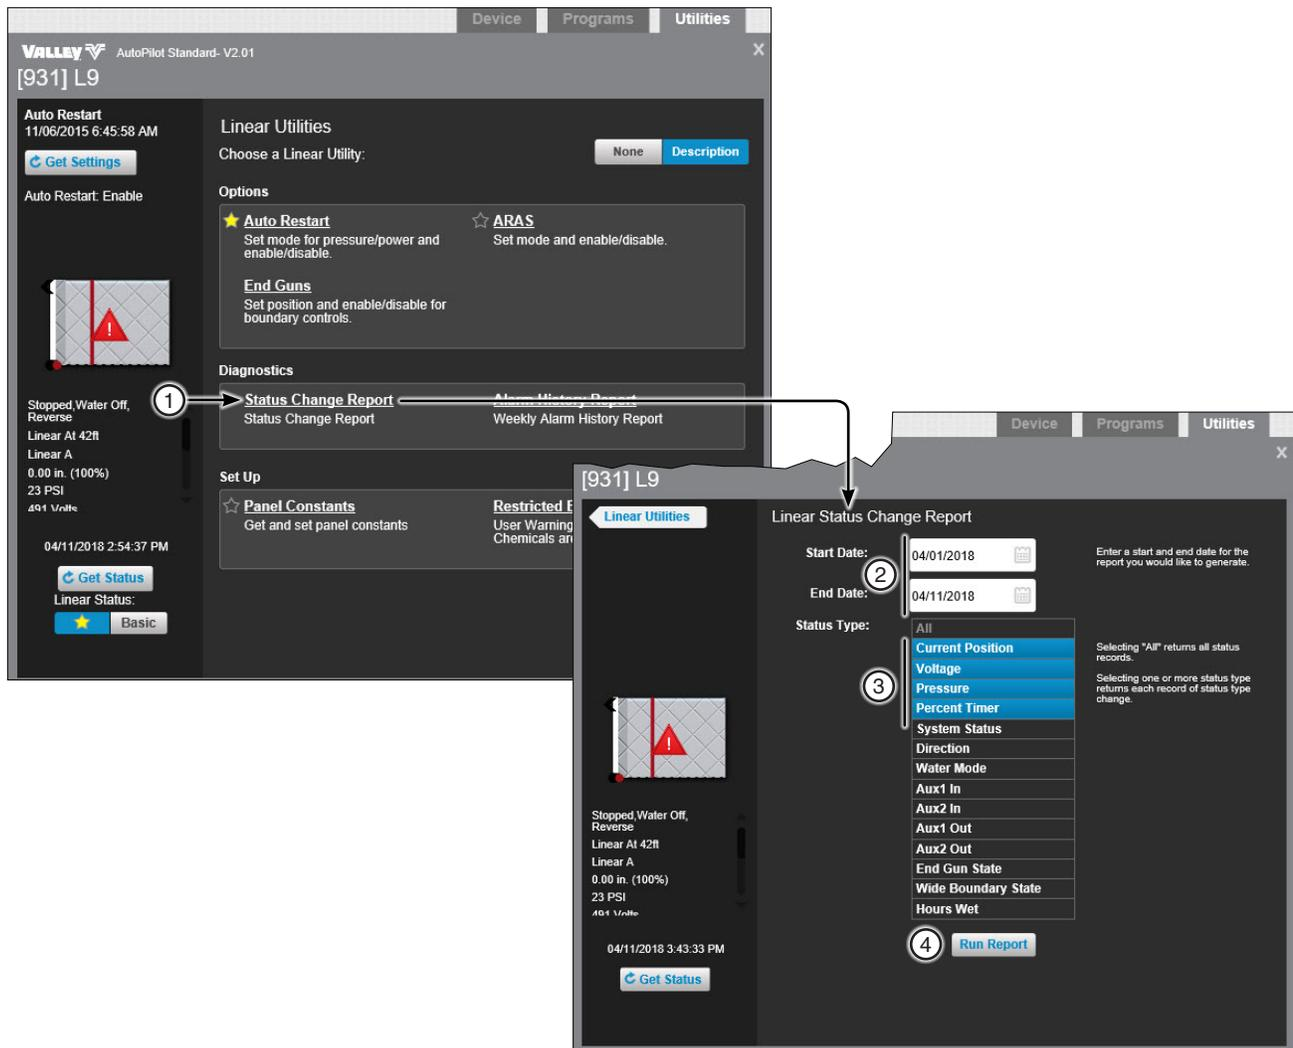

Figure 274-1 1. Status Change Report
**To Run Status Change Report:** To run the Status Change Report from the control panel, refer to Figure 274-1 and do the following.